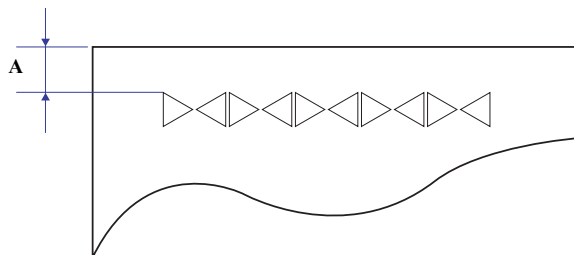

Figure 5-28. Top margin check pattern
(See Figure 5-28.)
5. Measure the distance (mm), from the top edge of the paper to the printed pattern, as shown in Figure 5-28, and confirm that it is within specification.